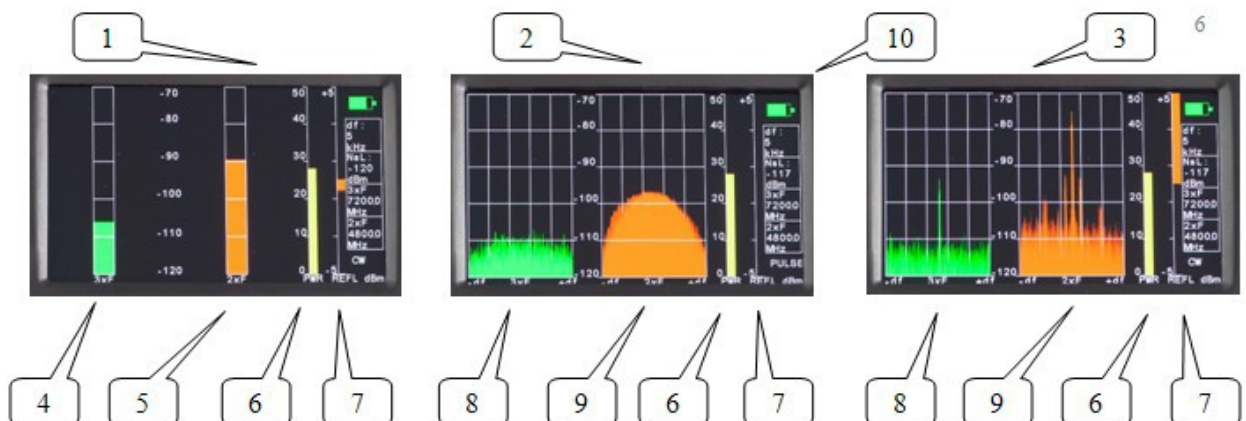

Figure 3, where
4.3. Replaceable antenna module with spectrum analyzer (modification //08c and //24c) provides indication on a graphic display. Figure 3 shows possible representation options of transmitter power level, levels of the received signals of second and third harmonics, spectrum of the received signals of second and third harmonics, level of the reflected signal of the first harmonic.